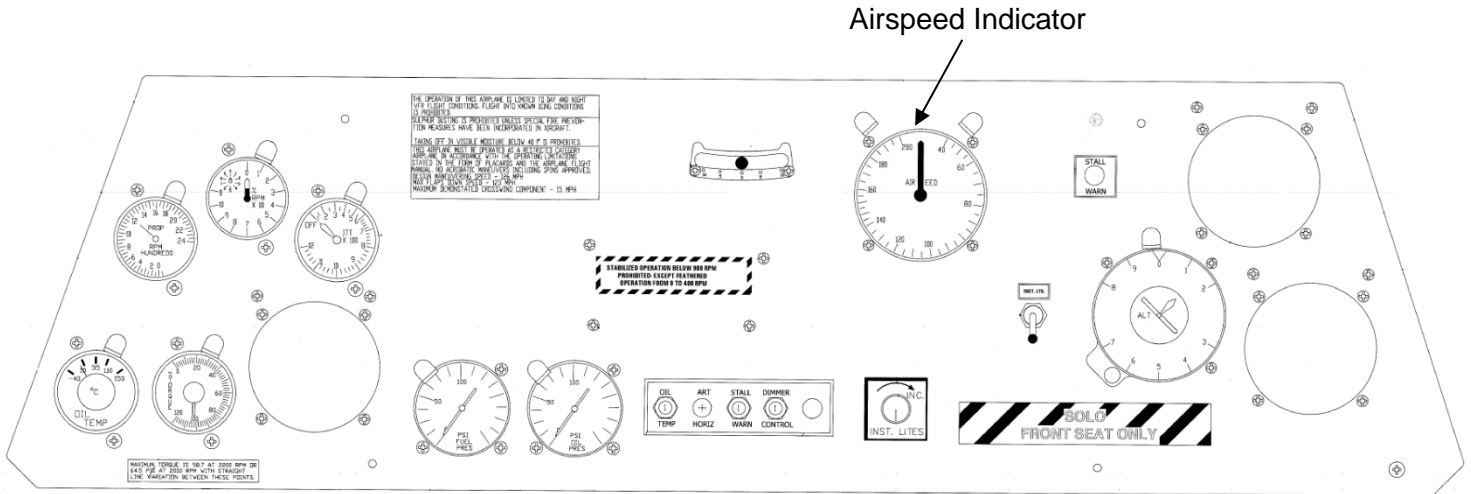

Figure 45-6
1. Original Airspeed Indicator Removal. See Figure 45-6 and 45-7.